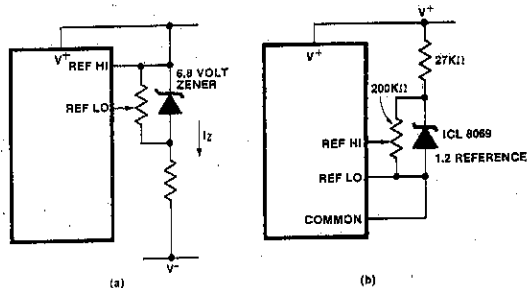

Figure 4: Using an External Reference
The limitations of the on-chip reference should also be recognized, however. The reference temperature coefficient (TC) can cause some degradation in performance. Temperature changes of 2 to 8 $^{\circ}\text{C}$, typical for instruments, can give a scale factor error of a count or more. Also the common voltage will have a poor voltage coefficient when the total supply voltage is less than that which will cause the zener to regulate (<7V). These problems are eliminated if an external reference is used, as shown in Figure 4.